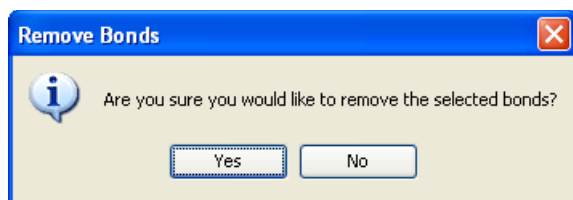

Figure 12-4 Confirm window
3. In the panel in Figure 12-4, click **Yes**.